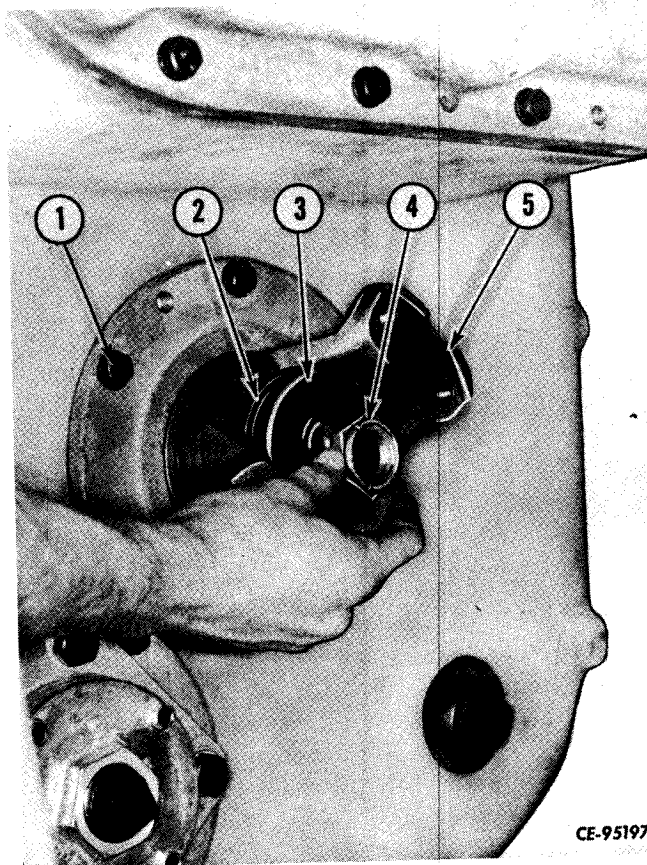

Figure 4-78
Install rear output yoke (5, Fig. 4-78) gasket (2) and washer (3). Secure with new nut (4). Tighten